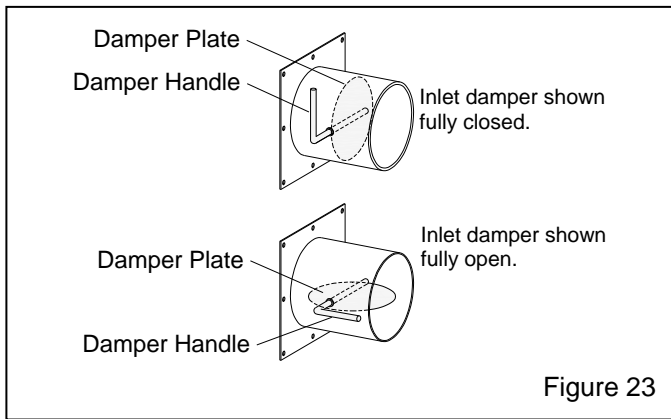

Figure 23
**5.2.1** Refer to Figure 23 and adjust the inlet damper by rotating the handle. The damper plate lines up with the handle; when the handle is horizontal, the damper is fully open; when the handle is vertical, the damper is fully closed.